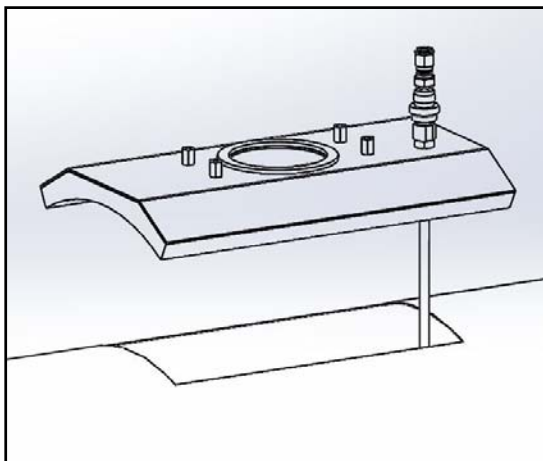

Figure 7
- (4) Remove the base assembly from the carton and align the cut out in the round gasket underneath the base plate with the duct cutout, as shown in Figure 7.